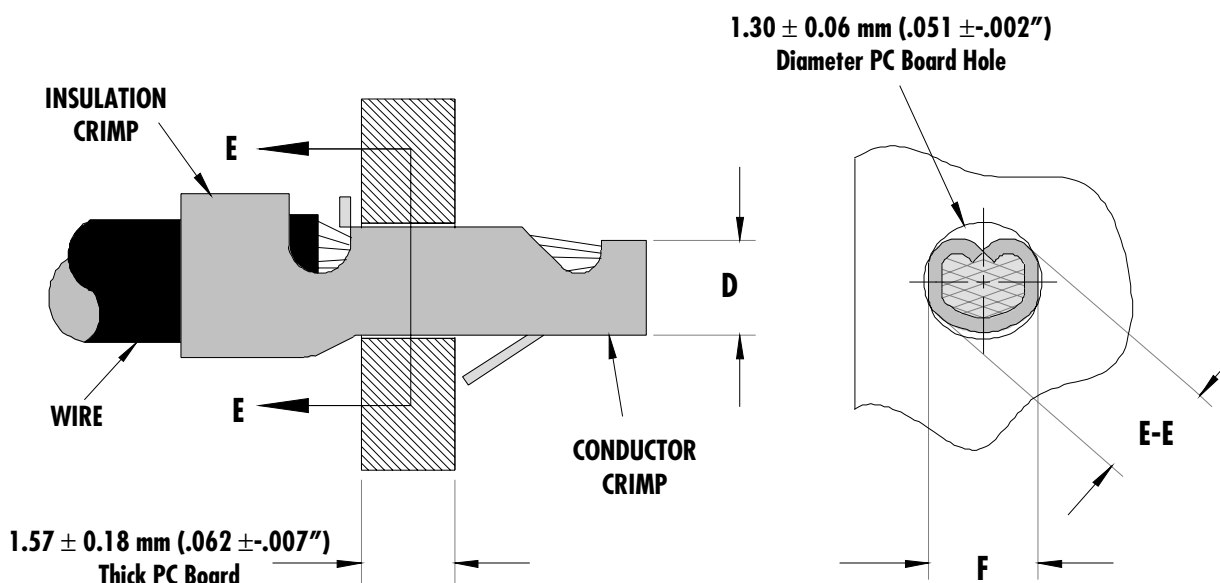

Figure 1
After crimping, the conductor profiles should measure the following (See Figure 1).
| Terminal Series No. | Wire Size |                 | Dimensions (Figure 1) |           |              |           |          |      | Pull Force Min. |     |
- 1 The Conductor crimp (D dimension on Figure 1) should be set at the maximum height to contain all wire strands, meet minimum pull, and fit into the PCB Hole. The insulation and barrel crimps are adjustable, by the cams (rings) on top of the Mini-Mac ram. The conductor crimp height is not adjustable. Shimming may be required of the conductor punch to optimize this for different wire types.